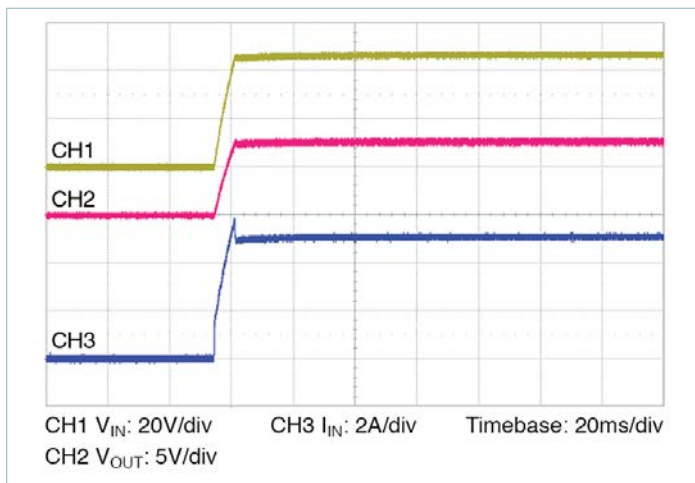

Figure 13 — Start up from application of  $V_{IN}$ ; VC pre-applied  $C_{OUT} = 2300\mu\text{F}$
- **Normal operation (VC applied prior to  $V_{IN}$ ):** In this case the controller is active prior to ramping the input. When the input voltage is applied, the VTM module output voltage will track the input (See Figure 13). The inrush current is determined by the input voltage rate of rise and output capacitance. If the VC voltage is removed prior to the input reaching 26V, the VTM may shut down.